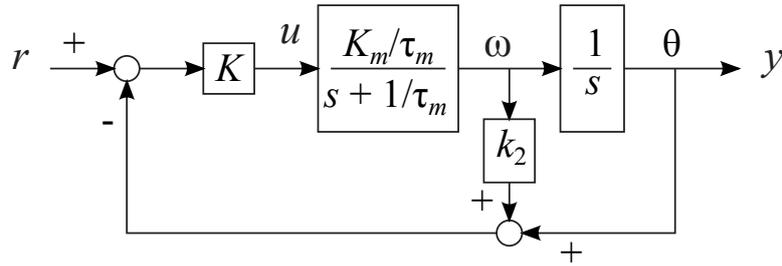

Figure 3.9: Block Diagram for Closed Loop Motor with Proportional plus Derivative Feedback
is proportional to the error. The term $Kk_2\dot{\theta}$ is the derivative feedback, and has a damping effect, like viscous friction. The block diagram of the PD controller is shown in Figure 3.9.
46. Using block diagram manipulation on the block diagram in Figure 3.9, find the transfer functions $G(s)$ and $H(s)$ for the equivalent block diagram in Figure 3.2. Plug in the values for K_m and τ_m that you found in the *Open Loop Step Response* experiment. Your H transfer function should be in the form $k_2(s + b)$